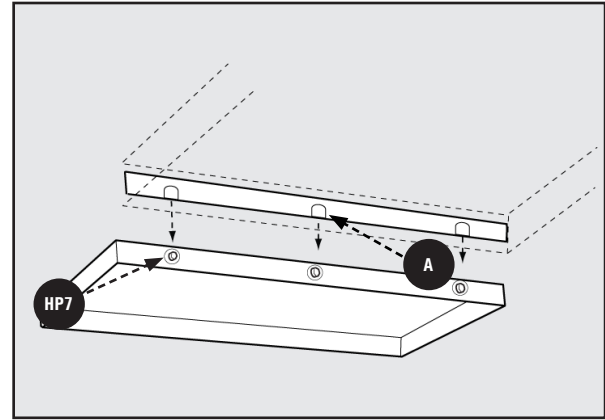

Figure 12
5. Loosely assemble three 5/16-18 x 7/8 inch Hex Head Screws with Split Lock Washers **HP7**, 8 x 16 x 1t Flat Washers **HP16** and three 5/16-18 Hex Flange Nuts **HP14** into the three holes into the side of the extension wing as shown. See Figure 12.